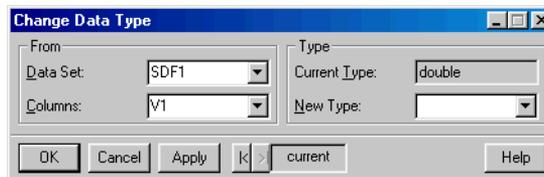

Figure 2.15: *The Change Data Type dialog.*
1. Click in the column and then click the **Change Data Type** button  on the **Data** window toolbar or choose **Data ► Change Data Type** from the main menu. The **Change Data Type** dialog opens, as shown in Figure 2.15.